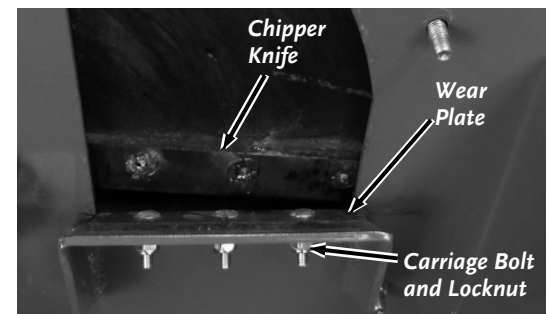

Figure 54
1. Remove the three Locknuts and Carriage Bolts that attach the Wear Plate to the Chipper Assembly with a 7/16" Wrench and then remove the Wear Plate (**Figure 54**).